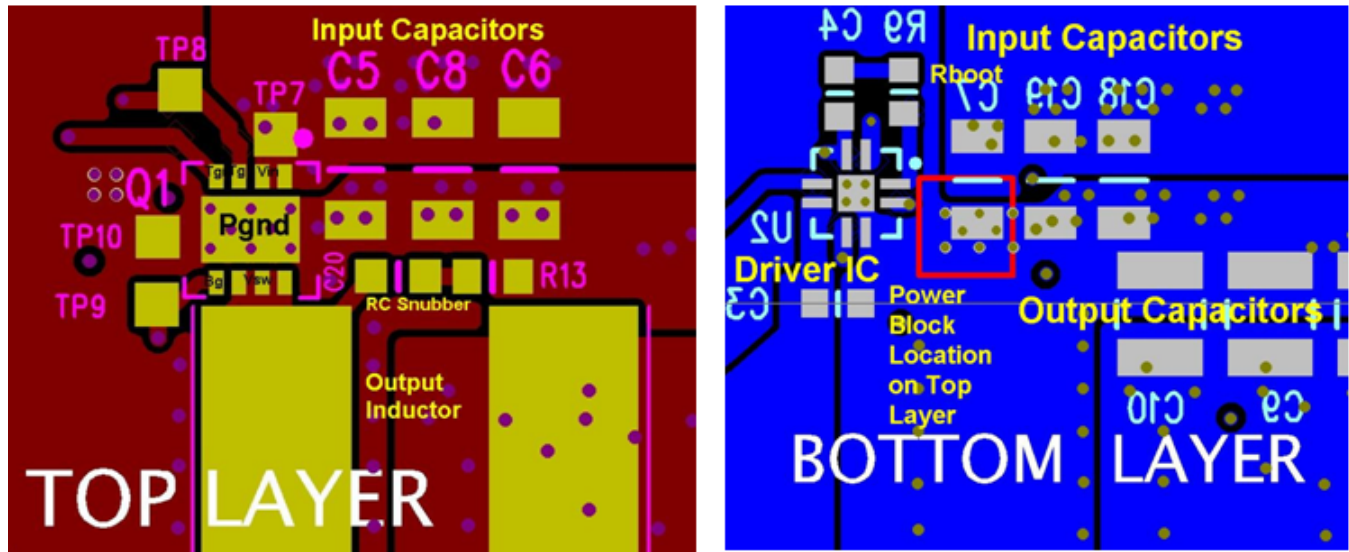

Figure 34. Recommended PCB Layout (Top Down)
- The placement of the input capacitors relative to the power block's VIN and PGND pins should have the highest priority during the component placement routine. It is critical to minimize these node lengths. As such, ceramic input capacitors need to be placed as close as possible to the VIN and PGND pins (see Figure 34). The example in Figure 34 uses 6 × 10-μF ceramic capacitors (TDK C3216X5R1C106KT or equivalent). Notice there are ceramic capacitors on both sides of the board with an appropriate amount of vias interconnecting both layers. In terms of priority of placement next to the power block, C5, C7, C19, and C8 should follow in order.
- The switching node of the output inductor should be placed relatively close to the power block VSW pins. Minimizing the node length between these two components will reduce the PCB conduction losses and actually reduce the switching noise level. In the event the switch node waveform exhibits ringing that reaches undesirable levels, the use of a boost resistor or RC snubber can be an effective way to easily reduce the peak ring level. The recommended boost resistor value will range between 1 Ω to 4.7 Ω depending on the output characteristics of driver IC used in conjunction with the power block. The RC snubber values can range from 0.5 Ω to 2.2 Ω for the R and 330 pF to 2200 pF for the C. Please refer to Snubber Circuits: Theory, Design and Application (SLUP100) for more details on how to properly tune the RC snubber values. The RC snubber should be placed as close as possible to the Vsw node and PGND see Figure 34. (1)
- Use the smallest drill size allowed in your design. The example in Figure 34 uses vias with a 10-mil drill hole and a 16-mil capture pad.